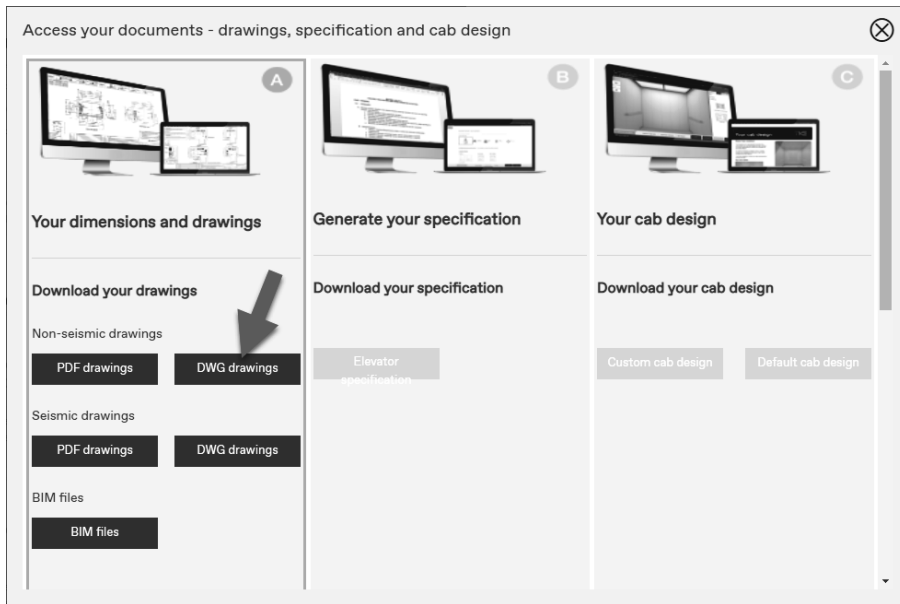

FIGURE 4-3.6 Download DWG CAD file
- Click the **DWG drawings** button in the Non-seismic section (Figure 4-3.6).